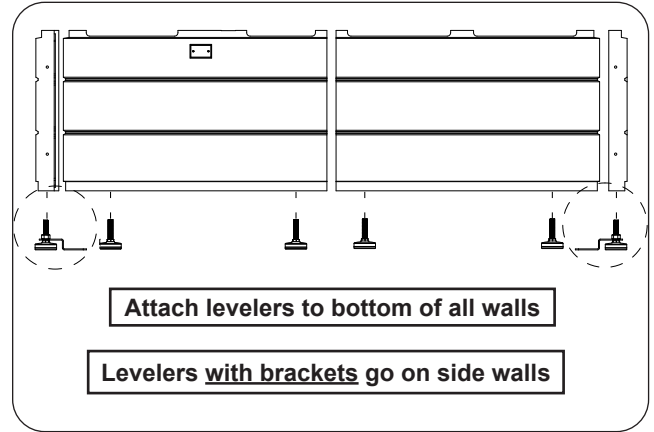

Fig. 8-1 Attach levelers
2. Carefully lay down all pieces that make up the island base and attach the levelers (see Fig. 8-1).
Note: 4 of the levelers have floor mounting brackets pre-installed. Use 2 on each side wall. See Fig. 8-1.